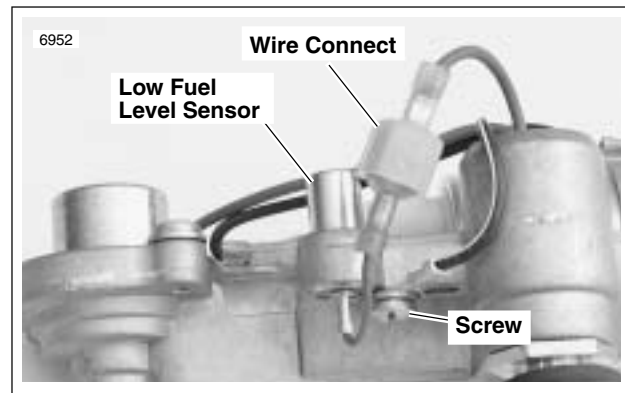

Figure 4-98. Low Fuel Level Sensor
2. See Figure 4-98. Pull apart the wire connect.